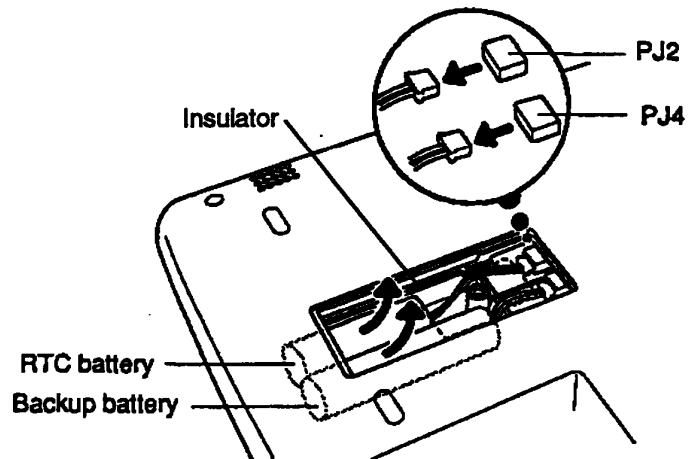

Figure 4-10 Disconnecting and Removing the Backup Battery and RTC Battery
4. Lift out the insulator (note how the cables are routed), disconnect the **backup battery** (the longer battery) from **PJ4**, and lift out the battery (Figure 4-10).
5. Disconnect the **RTC battery** from **PJ2** and lift out the battery (Figure 4-10).
1. Connect the **RTC battery** (the shorter battery) to **PJ2** and seat the battery (Figure 4-10).
2. Connect the **backup battery** to **PJ4** and seat the battery (Figure 4-10).